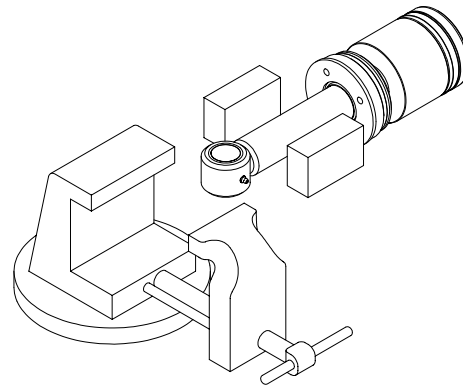

Figure 5-39, Piston Rod
5. Clamp the rod assembly in a soft-jawed vise on the wrench flats, not on the rod surface. If the rod does not have wrench flats, use two pieces of wood on both sides of the rod to prevent scarring. (Figure 5-39)
3. Line up the cylinder rod end to the body by extending the cylinder rod. Install the pivot pin retainer. (Figure 5-39)